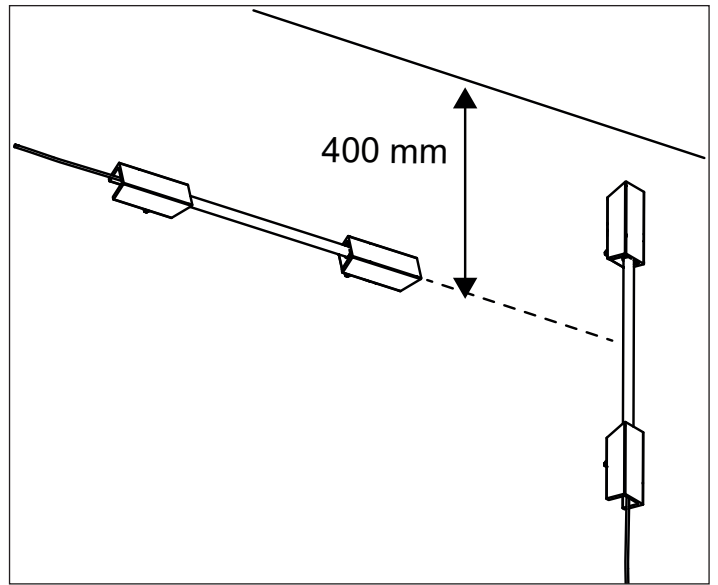
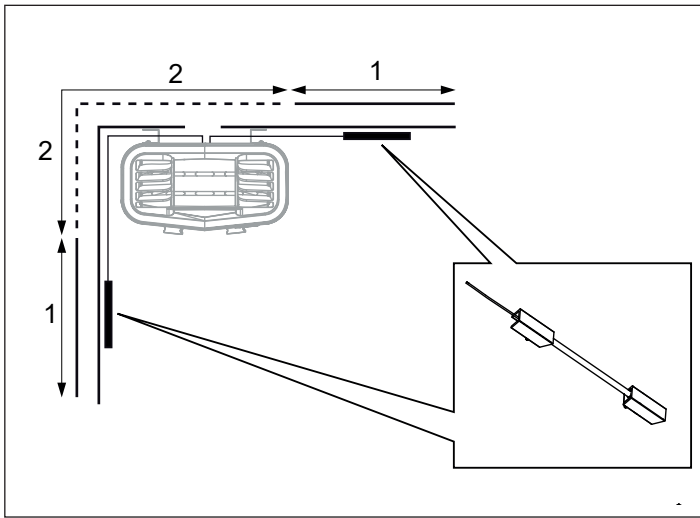
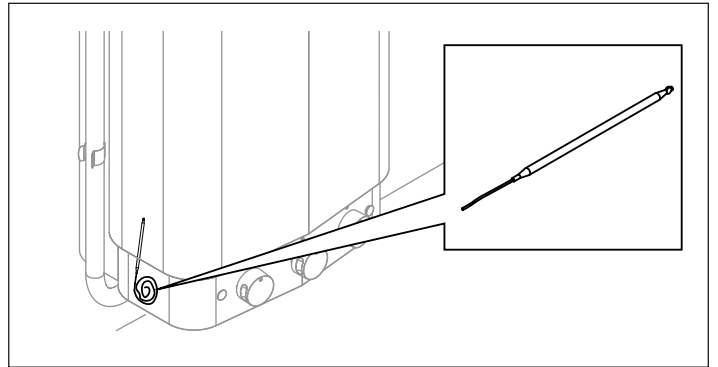
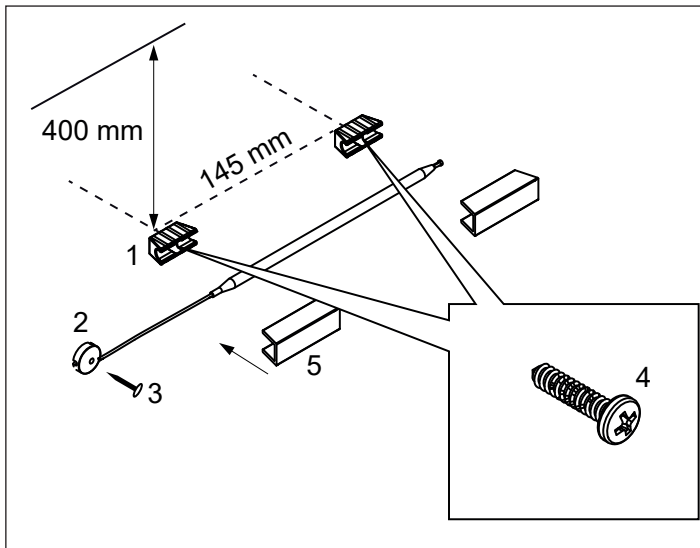

Figure 17: Temperature sensor placement
Figure 15: Positioning of temperature sensor
Figure 18: Finding the temperature sensor
Figure 16: Installing the temperature sensor
13. For positioning of temperature sensor holder on wall (see Figure 15). Choose position 1 if possible. Position 2 will reduce the sauna temperature. Install the temperature sensor holders (see (1) in Figure 16) 400 mm below the ceiling and 145 mm between using the two supplied screws (4).
Insert the temperature sensor (located on the side of the heater, see Figure 18) and attach the cover profiles. Secure the capillary tube with the clips (2) and the brad nail (3) (see Figure 16). The sensor could either be installed vertical or horizontal, (see figure 17)
Contact TylöHelo Customer Service before connecting to voltages or numbers of phases that are not listed in the wiring diagram (Figure 17).